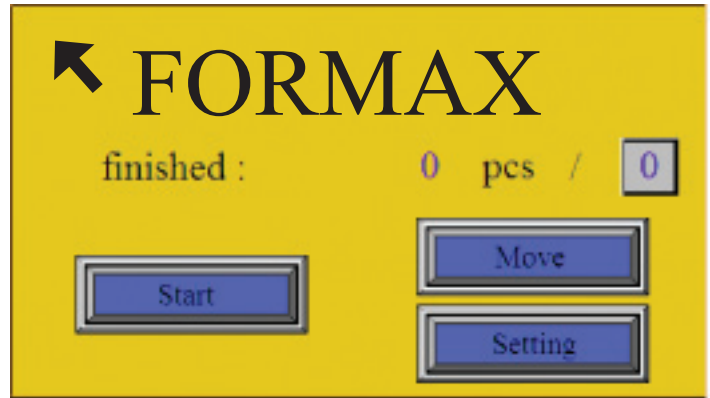

Fig. 4: The Main screen
1. After the power supply switch has been turned on, the display shows the main screen (fig. 4)